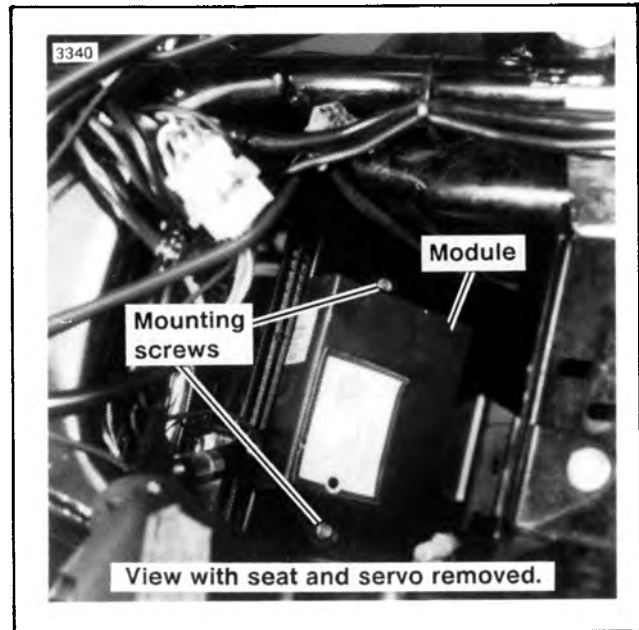

Figure 8-43. Cruise Control Module
2. See Figure 8-43. Unplug all wires and harnesses connected to the module.